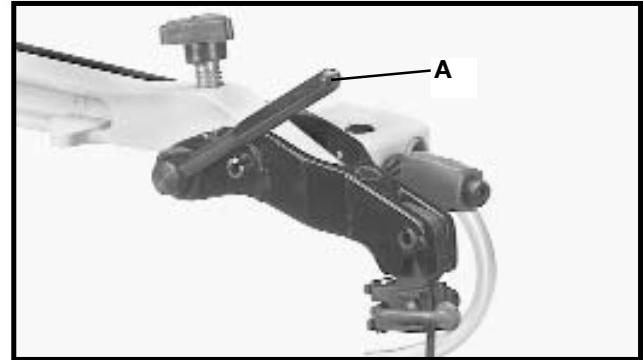

Fig. 3
2. Move the blade lever tension handle (A) Fig. 3, to the foreword position as shown.